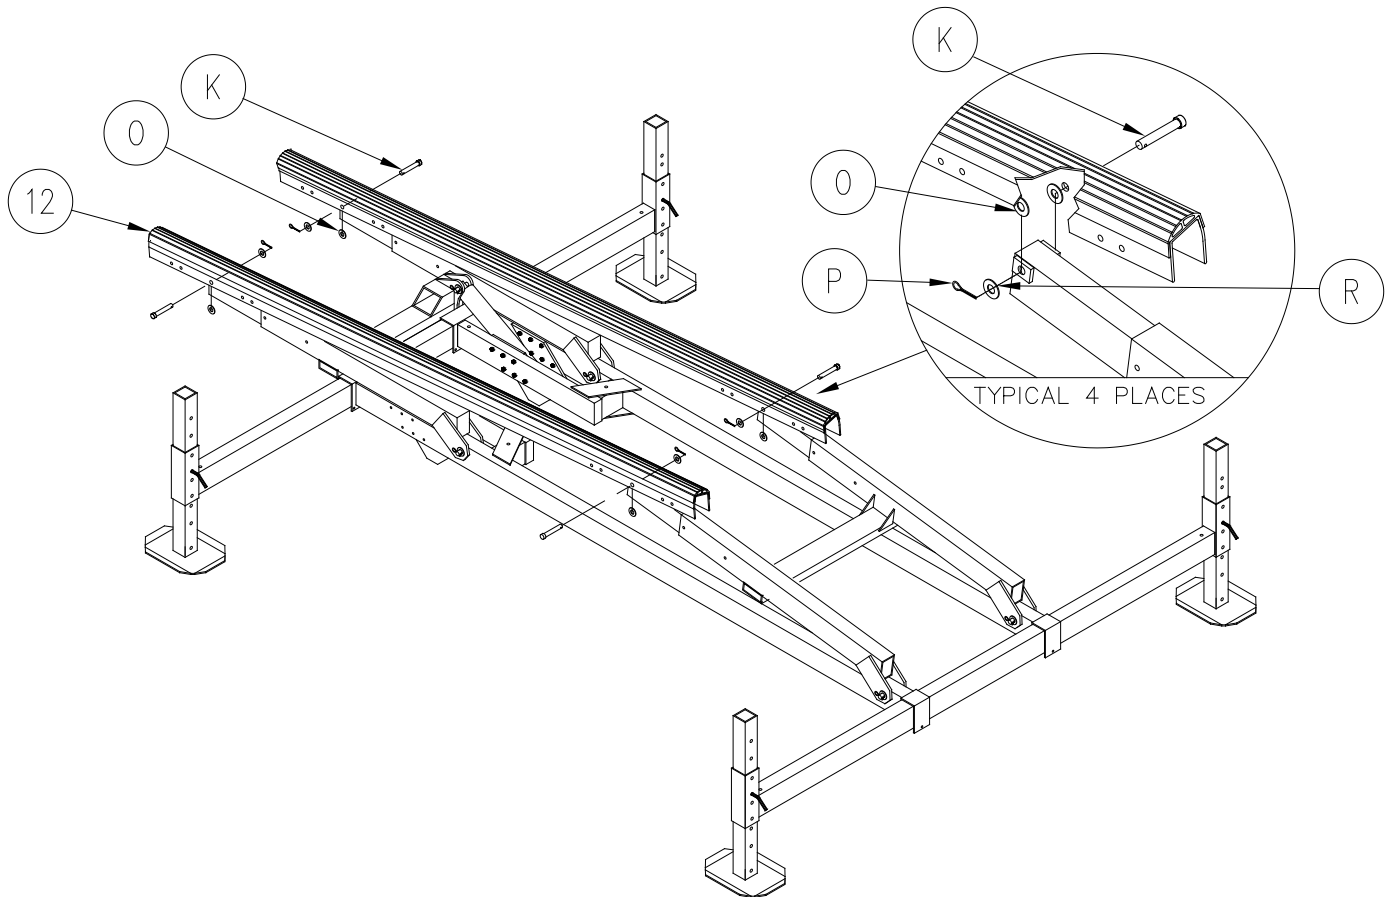

Figure 3-5.
1. **Refer to Figure 3-5.** Install aluminum bunk (12) to the lift arms. Place the bunk so that the sloped top surface is toward the inside of the lift.
2. Insert clevis pin (K) through one side of the aluminum bunk. Insert nylon washer (O) between bunk and the lift arm. Finish inserting clevis pin through the lift arm. Insert another nylon washer (O) between the bunk and other side of lift arm before fully inserting clevis pin. Repeat for other end of bunk.
3. Install flat washer (R) and cotter pin (P) on each end of clevis pin (K). Secure clevis pin by spreading end of cotter pin apart and bending around clevis pin. Repeat for other end of bunk.